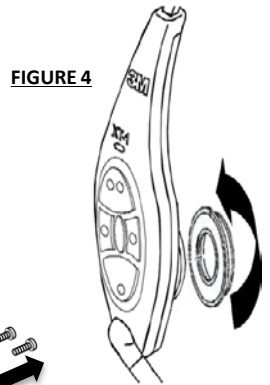

FIGURE 4
2. Remove the ear pad by using your fingers to pull the ear pad from the ear cup. Then grasp the headset firmly in one hand, and pull the ear cup off the speaker with the fingers of the other hand. See Fig 4.